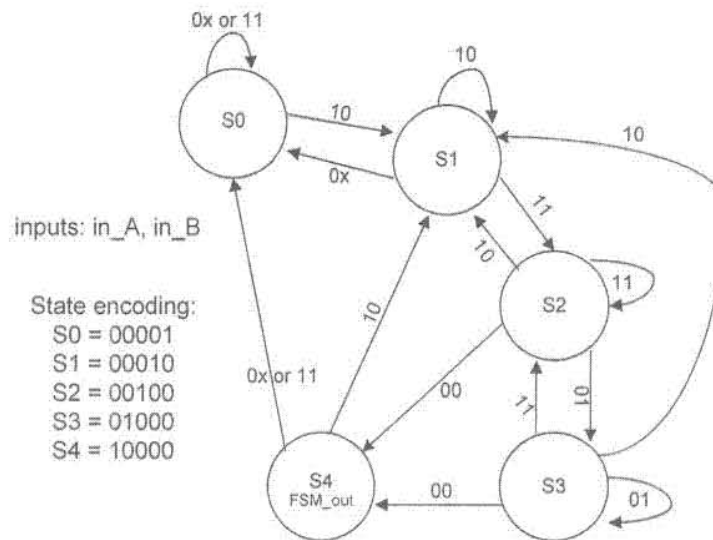

Figure 1.1
1. Figure 1.1 depicts the state diagram of a 5-state finite state machine (FSM) with inputs in_A and in_B , and an output FSM_out . One-hot state encoding is used. The output is FSM_out set high in state S4 and low in all other states. All input signals change shortly before the rising edge of the clock signal clk .